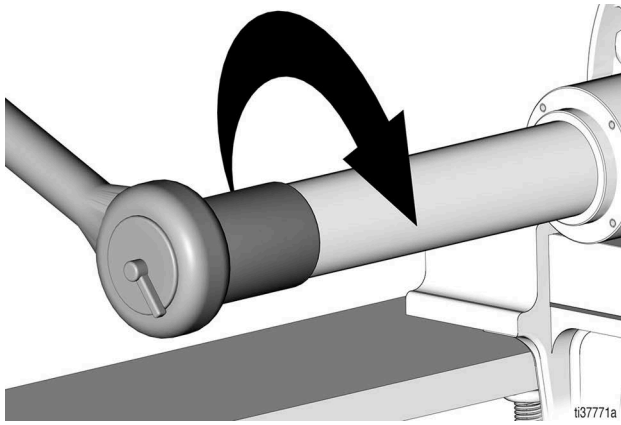

FIG. 30
14. Replace the seal retainer (6) and hand-tighten (FIG. 30).
15. Apply anti-seize lubricant to the male threads of the pump cylinder (2) then reinstall the assembly. Tighten using a 1-13/16 in. socket (torque 235 - 265 ft-lb/318.6 - 359.3 N•m).